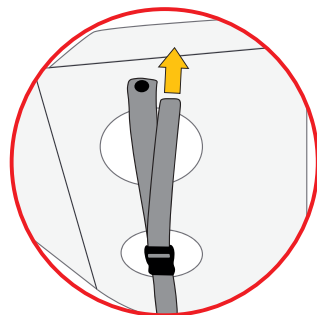

Fig. 19
- close the nylon buckles and tension the webbing (fig. 19).